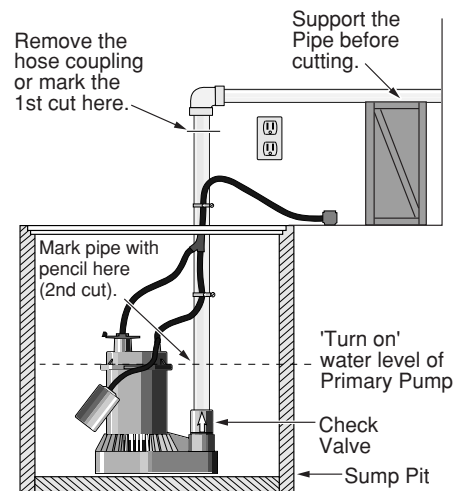
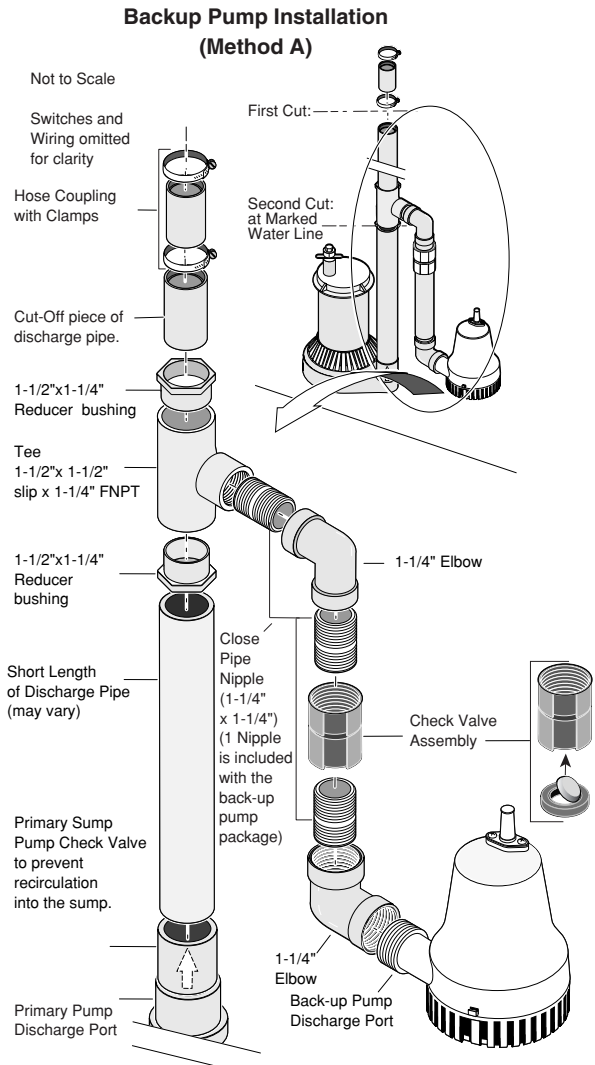

Figure 1 – Mark and cut pipe as shown
Figure 4 - Method A installation diagram
1. Locate the "on" water level of the primary sump pump. Mark this location on the discharge pipe with a pencil. See Figure 1.
- 5B. For applications without rubber couplings: cut the PVC discharge pipe with a hacksaw above the basement floor, at a comfortable level. New rubber couplings are included for reassembly. See Figure 1 on Page 4.
CAUTION Risk of pinching hands or fingers. To avoid a hand injury from a collapse of plumbing, support the pipe above the separation before cutting or disassembly. See Figure 1.
Method A suggests installing both of the pumps on the floor of the sump pit. See Figure 4. The minimum required sump basin diameter, at the bottom of the pit and the recommended depth of the sump basin is 18".
1. Make the second cut in the discharge pipe at the pencil mark as shown in Figure 1 on page 4, and in Figure 4, on Page 5. Clean the pipe ends with a cloth towel and set the cut-off piece of discharge pipe aside.
1. Make a second cut in the discharge pipe at the pencil mark made in step 1, on Page 4, and set the cut-off piece of discharge pipe aside. See Figures 1 and 7.